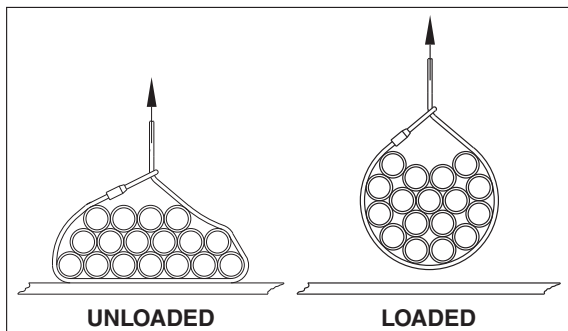

Figure 2
2. Before installing Bundle Clip, apply initial load by lifting the bundle and clearing the support, producing a tight choke. Repeat as necessary until the bundle package is in the most compact position (See figure 2, Loaded).